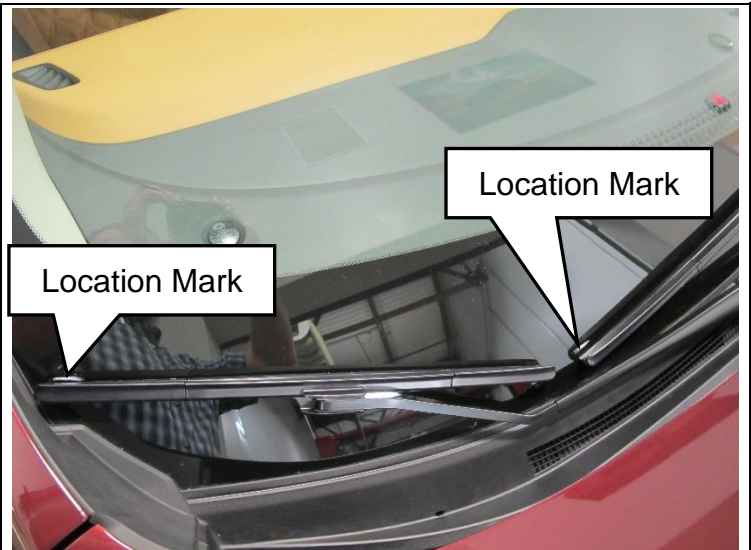

Figure 26
20. Install wiper arm assemblies (Figures 26 and 27).